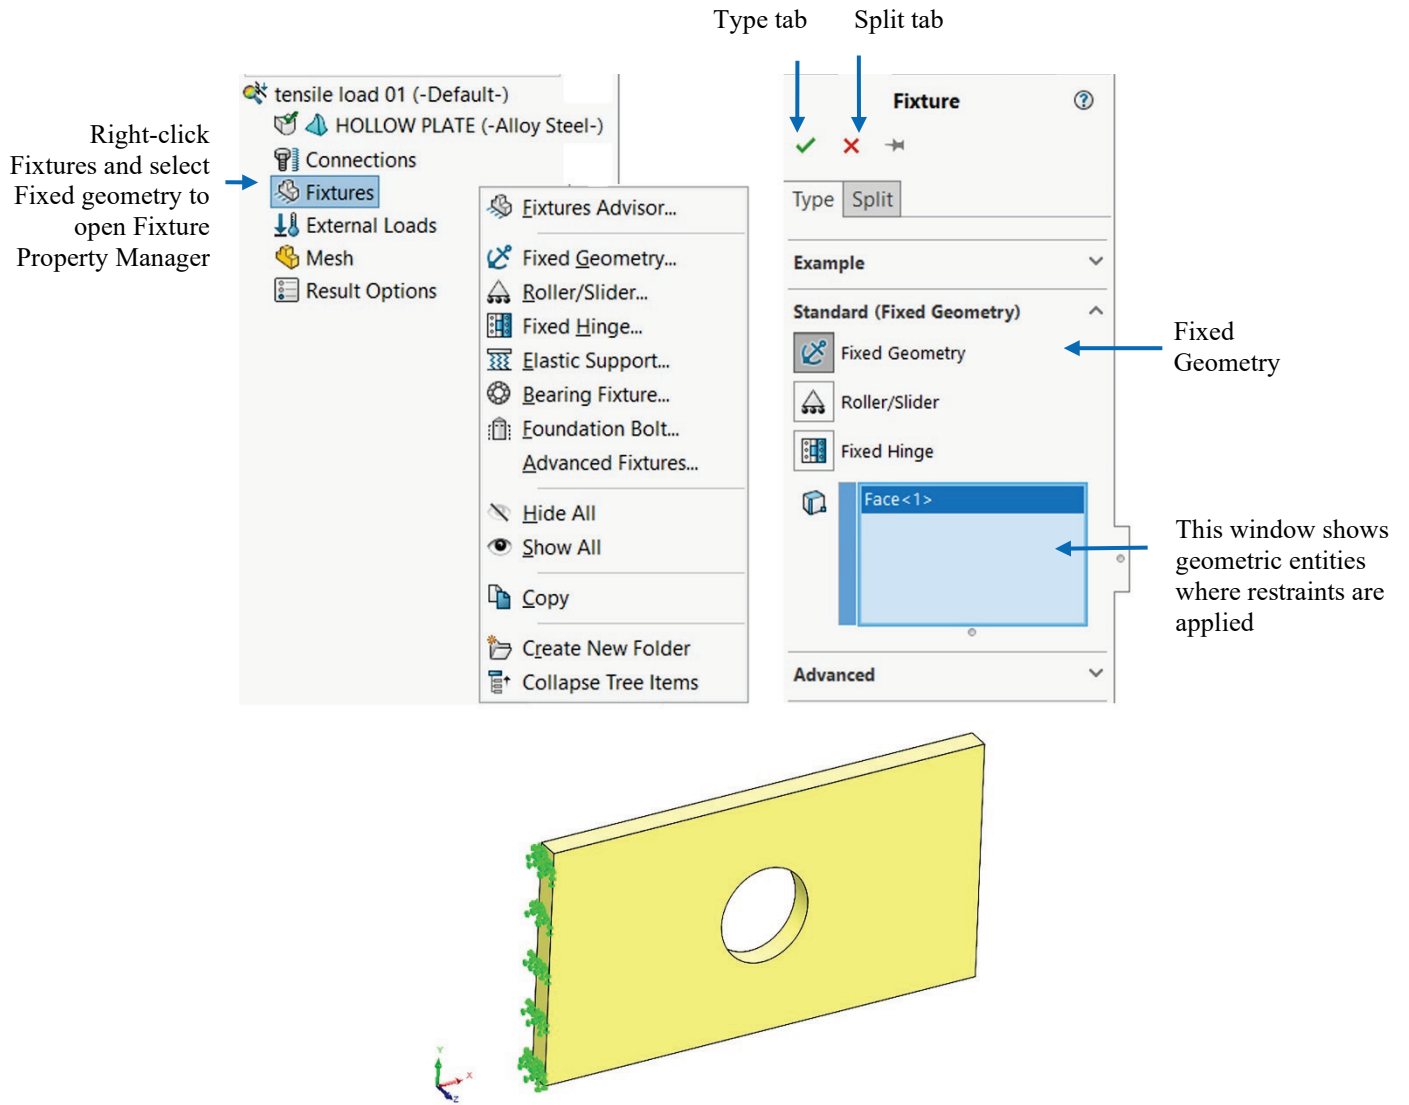

Figure 2-10: Pop-up menu for the Fixtures folder and Fixture definition window (Fixture Property Manager).
Having assigned the material, we move to defining restraints. To display the pop-up menu that lists the options available for defining restraints, right-click the *Fixtures* folder in the *tensile load 01* study (Figure 2-10).
The existence of restraints is indicated by symbols shown in Figure 2-10. In the **Symbol** Settings of the Fixture window, the size of the symbol can be changed. Note that symbols shown in Figure 2-10 are distributed over the highlighted face meaning the entire face has been restrained. Each symbol consists of three orthogonal arrows symbolizing directions where translations have been restrained. Each arrow has a disk symbolizing that rotations have also been restrained. The symbol implies that all six degrees of freedom (three translations and three rotations) have been restrained. However, the element type we will use to mesh this model (second order solid tetrahedral element) has only translational degrees of freedom. Rotational degrees of freedom can't be restrained because they don't exist in this type of element. Therefore, disks symbolizing restrained rotations are irrelevant in our model. Please see the following table for more explanations.
- Right-click *Fixtures* folder and select **Hide All** or **Show All** in the pop-up menu shown in Figure 2-10